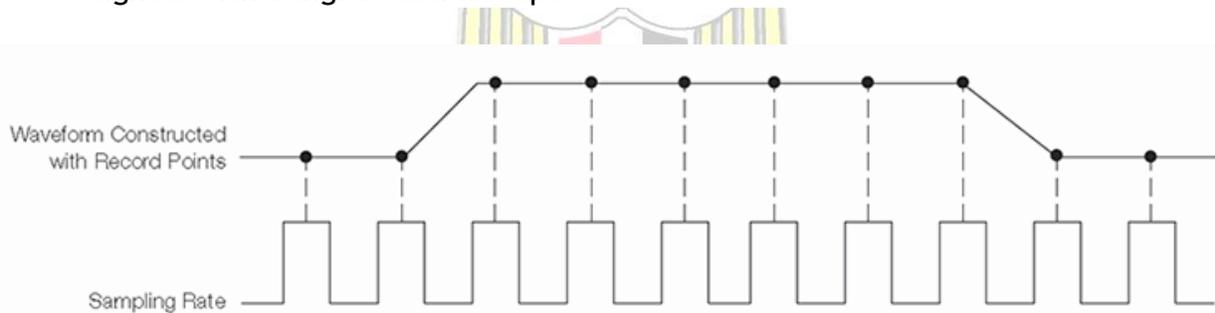

Figure 1.4.8 Real time Sampling method.
- **Real-time Sampling Method:** Real-time sampling is ideal for signals that have frequency ranges less than half the oscilloscope's maximum sample rate. Here, the oscilloscope can acquire more than enough points in one "sweep" of the waveform to construct an accurate picture, as shown in the following Figure 1.4.8. Real-time sampling is the only way to capture fast, single-shot, transient signals with a digital oscilloscope.